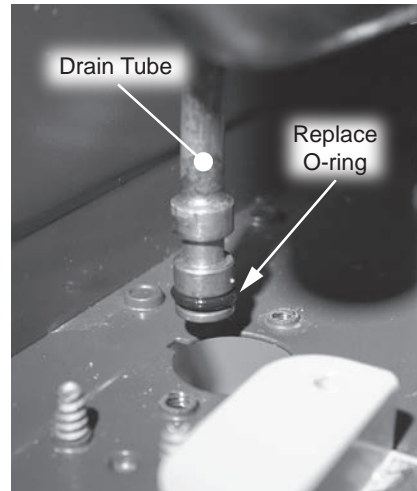

Figure 205 - Replacing drain tube O-ring
- 6 Locate the new inlet filter and O-ring provided in the kit. Install the O-ring to the inlet filter. See Figure 205.